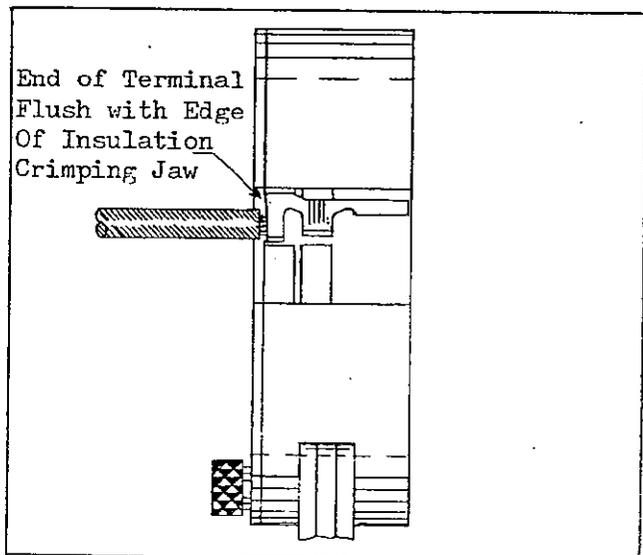

FIG. 3
4. CRIMPING PROCEDURE - (a) To open Crimping Jaws, squeeze handles until Certi-Crimp Ratchet, see Figure 1, releases. Open Handles all the way. (b) Place terminal in Crimping Jaws as shown in Figure 3. (c) Squeeze handles until terminal is held firmly in place. Do not deform terminal barrel. Note that once Certi-Crimp Ratchet is engaged, handles cannot be opened. (d) Insert stripped wire into terminal barrel. (e) Hold wire in position and complete crimp by squeezing handles until Certi-Crimp Ratchet releases.